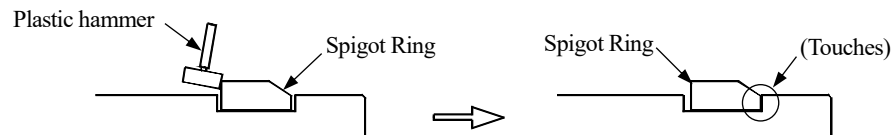

Figure-30 Correct position of Spigot Ring in the groove
- (3) Tamp the Spigot Ring lightly with a soft head hammer to shift the tapered side against the wall of the groove at the spigot end. (See Figure-30.)